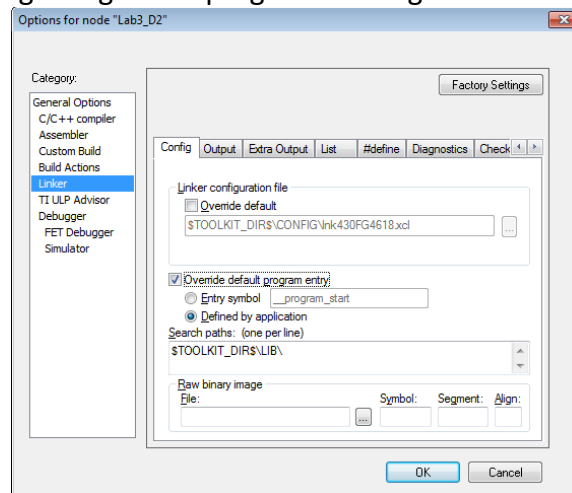

Figure 1. Linker category.
Step 5: Setting the linker options. In Project>Options, select Linker category. Check the box for “Override default program entry” and select “Defined by application.” This step notifies the linker where to find the beginning of the program. See Figure 1.